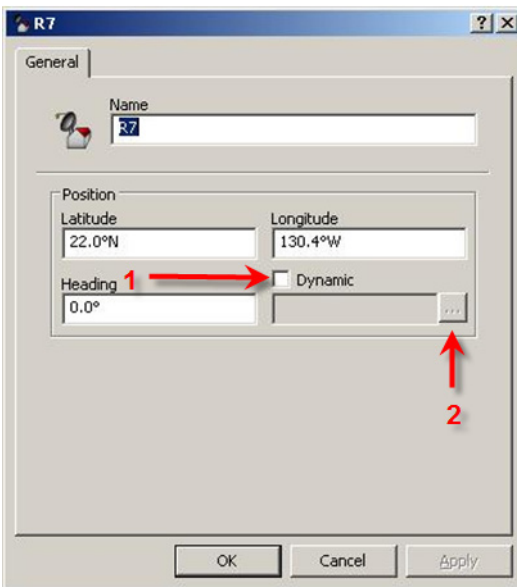

Figure 3-55 Enable Dynamic Function for SOTM Remote
2. Right-click on a mobile Remote site and open the **Properties** window (figure 3-55).